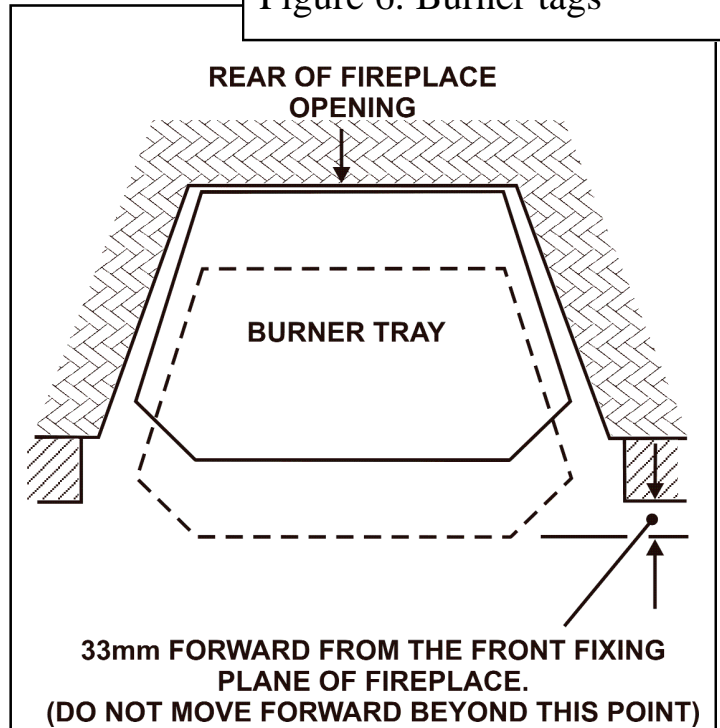

Figure 7. Burner positioning
- Place the burner unit centrally within the fireplace opening. Position the burner to the rear of the opening, this may be moved forward providing the front of the burner tray does not protrude beyond the front plane of the fireplace opening by more than 33mm (See figure 7).